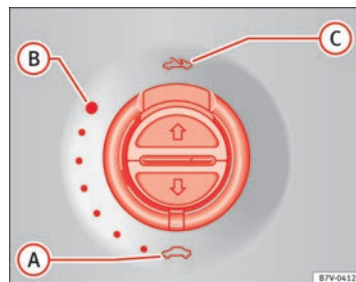

Fig. 57 On the interior roof lining: use the rotary button to open and close.
| ⇒ fig. 57   |                      |  |
- The ⇒ fig. 57 ① switch should be in the “closed” position (A).